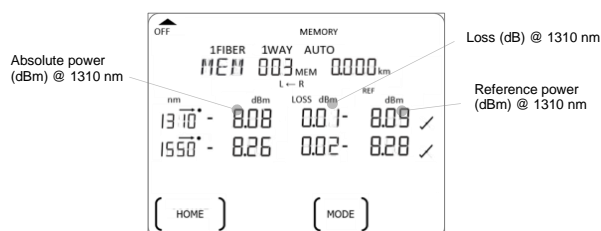

Figure 7. Memory display of One-Way Autotest
- [For data saved in 1-way Autotest mode only]: As default, absolute power will be displayed in dBm along with loss (dB) and reference power (dBm), see Figure 7 at the end of this section for an LCD display sample. To change to display absolute power in watt also, press **F3**. Press **F3** again will return to default display.